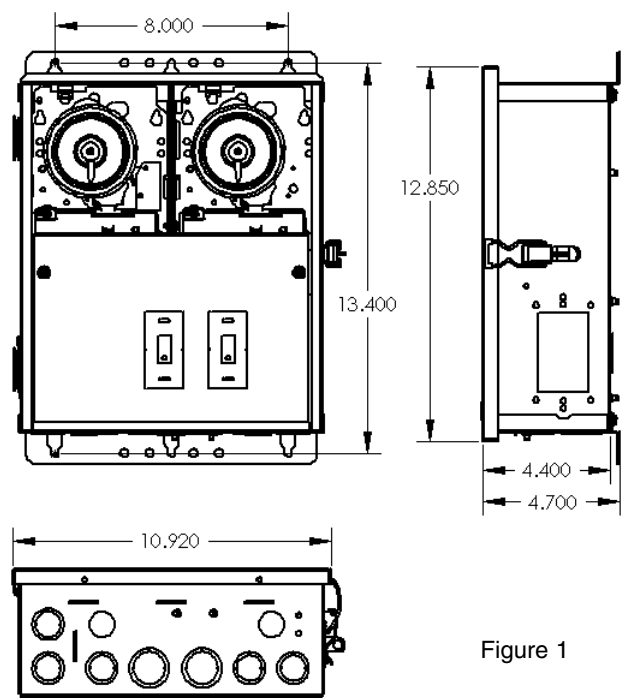

Figure 1
4. Refer to Figure 1 below. Note that this enclosure contains **two** independent time switches. The one on the left is a **Model T106M**, a Single Pole Double Throw (SPDT) switch, and it's function is to **change** the speed (RPM) of the pump motor. The time switch on the right is a **Model T104M**, a Double Pole Single Throw (DPST) switch, and it's function is to **start/stop** the pump motor. To wire the two switches, follow wiring diagram on page 4 of this manual. Make sure that connections to time switch terminals are tight (25 lb. - in. minimum) and insulation clears the pressure plate - see illustration.
- Stand-offs are not furnished. Order 21T156A for a set of four (4) stand-offs and mounting hardware.